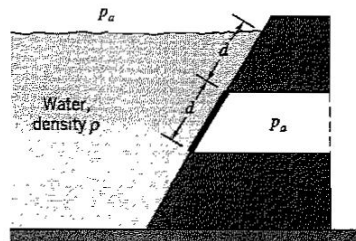

Figure P2.39
2.39 A rectangular window of width W is set into the sloping wall of a swimming pool, as shown in Figure P2.39. Find the point of action of the resultant force acting on the window.